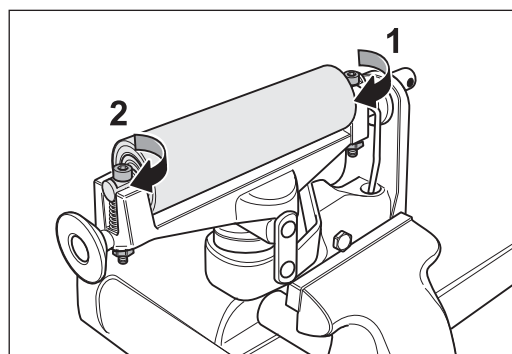
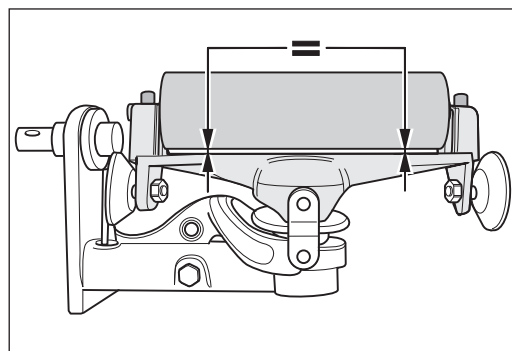

Fig. 91 Tighten the side without spring (1) and then the side with spring (2), so that ...
Fig. 92 ... the tensioning roller is positioned parallel to the top of the drive unit.
- 7 Tighten the screw of the unsprung bearing pedestal side (Fig. 91, 1).
- 8 Turn the screw on the sprung side of the tensioning roller (Fig. 91, 2) far enough so that the tensioning roller is positioned parallel to the upper part of the drive unit (Fig. 92).